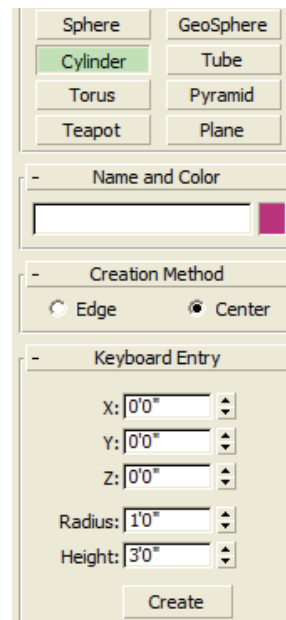

Figure 3–3
- If the Keyboard Entry rollout is collapsed, click the plus (+) sign to expand it. In the Keyboard Entry rollout, leave the X, Y, Z coordinates at **0'0"**. The software places the base center of the cylinder at 0,0,0, location. Set the *Radius* to **1'0"** and the *Height* to **3'0"** and press <Enter>, as shown in Figure 3–3. Click .